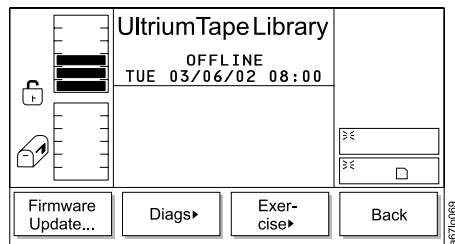

Figure 264. Library Submenu
3. Press the button below the **Library** softkey. The Library Submenu displays (see Figure 264).